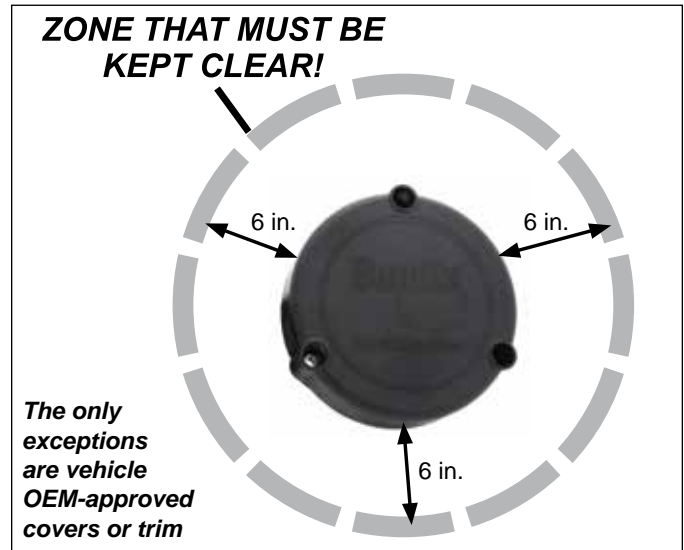

FIGURE 7 - CLEARANCE ZONE AROUND THE SENSOR
- The radar's field of view must NOT have interference from any other vehicle components such as hand rails, aftermarket lights, seasonal decorations, or any other commonly mounted vehicle components. The radar signal is emitted from the front of the sensor with a spreading beam. In order to ensure that no adverse interference is experienced from other nearby vehicle equipment, a suitable clearance must be maintained around the radar. This clearance must be maintained regardless if the vehicle is stationary or in motion. See *Figure 7* for a general guide to the zone required.
- To reduce the possibility of the sensor detecting objects mounted to the vehicle — like the steps or fuel tanks — make sure the face of the sensor extends out a minimum of 5/16 of an inch further than any other object within six (6) inches of the sensor's body. See *Figure 7*.